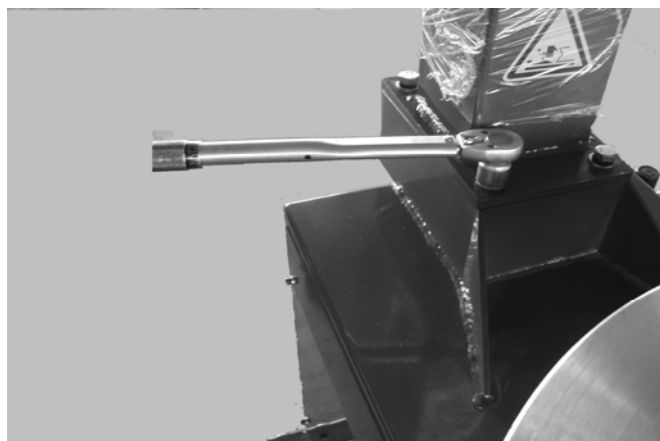

FIG 5
3.2.2 Place the column on the body. The direction of the warning label is forwards. Make the holes on the column base plate align to thread holes on the body. Once again assemble the removed the bolt (3.2.1), elastic washer and plate washer and plate washer removed in 3.2.1. The torque is 70 N·M (FIG5) Use torsion wrench to tight.